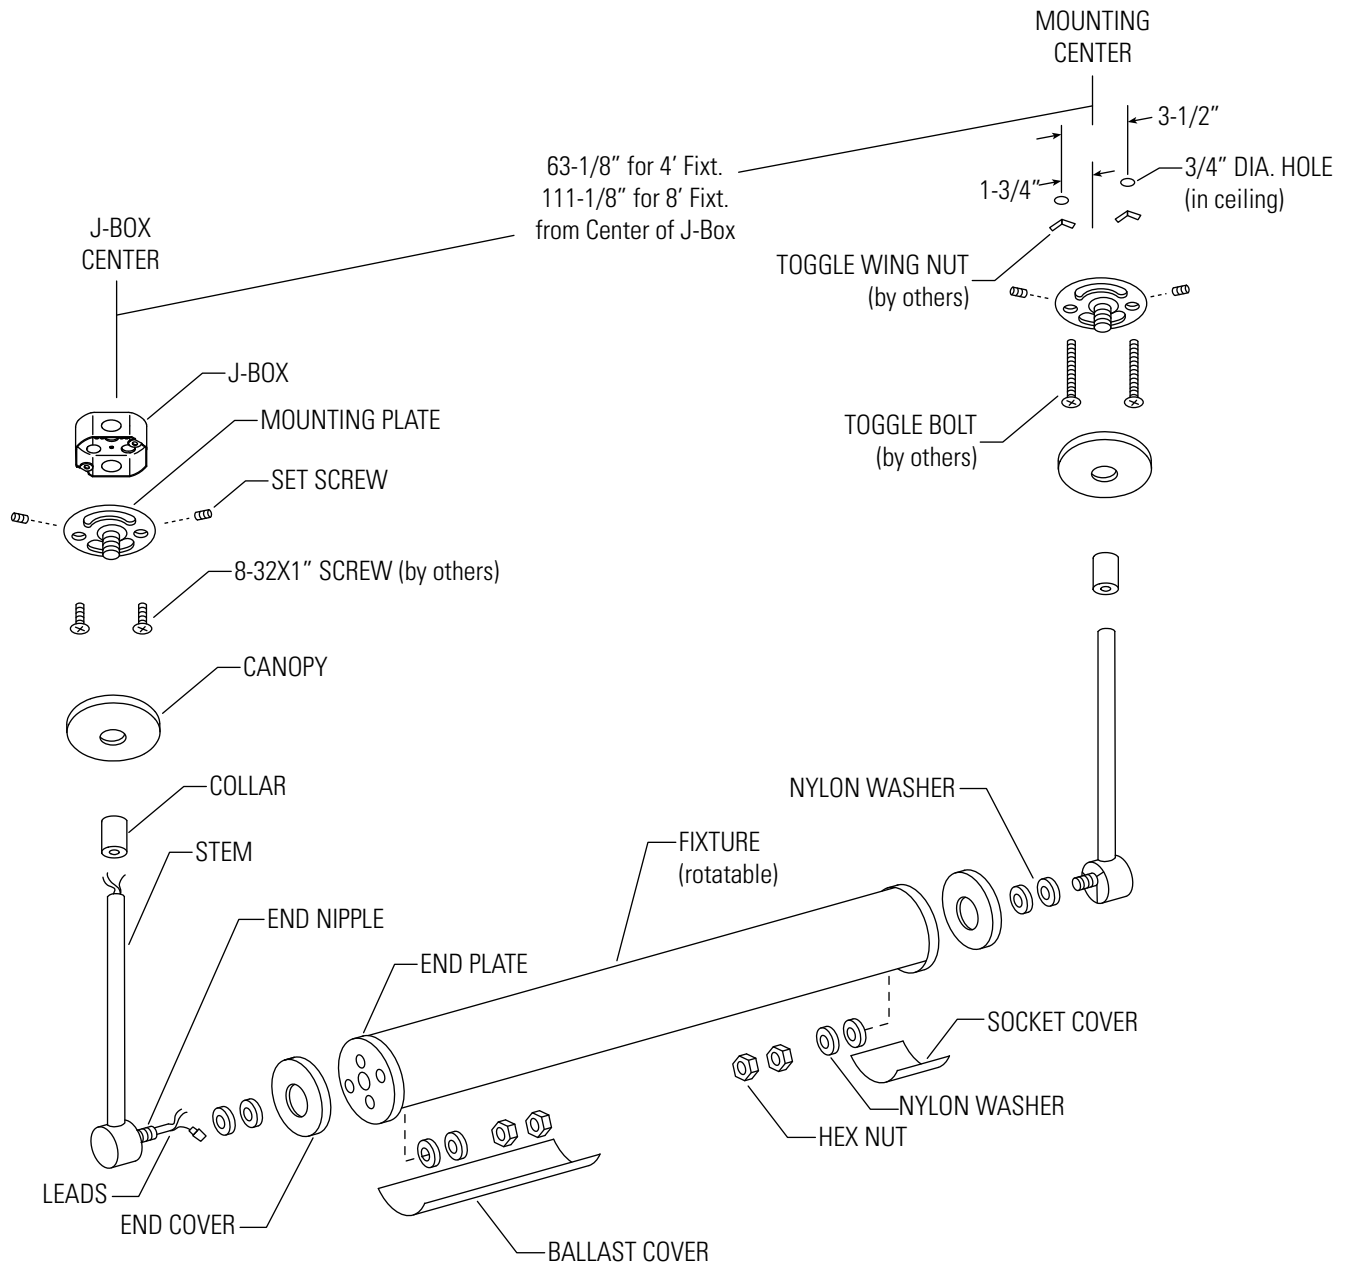

Figure 3
Step 3. Mark Off MOUNTING CENTER (Fig. 3)
Mark required distance from J-BOX CENTER to MOUNTING CENTER and drill two (2) 3/4"Ø HOLES as required. (Fig. 3)
Attach TOGGLE BOLTS (by others) to MOUNTING PLATE, fasten TOGGLE WING NUT (by others) to TOGGLE BOLTS and slip TOGGLE WING NUTS thru 3/4"Ø HOLES in ceiling. Fasten securely. (Fig. 3)
Remove BALLAST COVER and SOCKET COVER. Place END COVER onto END PLATE. Slip NIPPLE thru center hole in END PLATE. Place NYLON WASHER onto NIPPLE and fasten with two (2) HEX NUTS. Leave loose. Make required electrical connections. (Fig. 3)
Slip COLLAR and CANOPY over STEM. Seat STEMS into opening on MOUNTING PLATES and secure firmly with two (2) SET SCREWS. Make required electrical connections per local codes. Slip CANOPY over MOUNTING PLATE and fasten COLLAR to MOUNTING PLATE. Rotate FIXTURE to desired direction and firmly tighten two (2) HEX NUTS on inside of FIXTURE. Replace BALLAST COVER and SOCKET COVER. (Fig. 3)